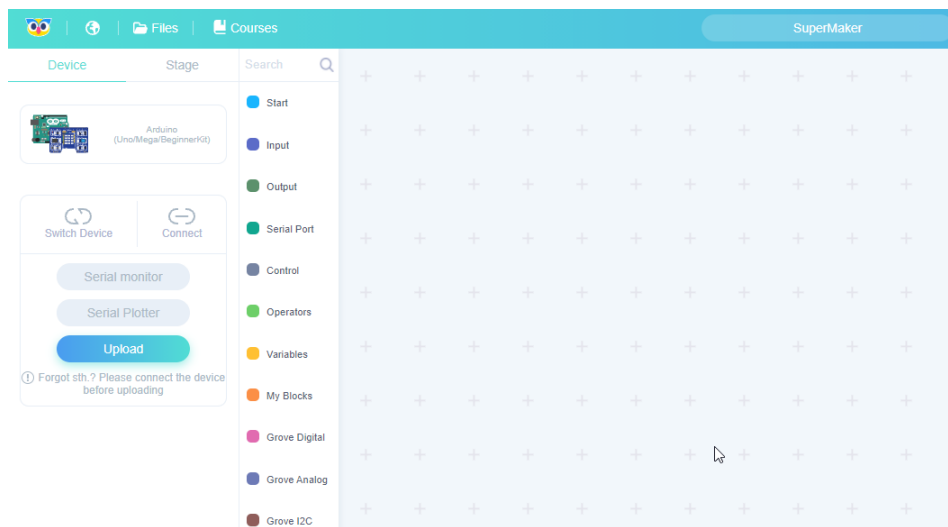

Figure 8.1: Codecraft Workspace
5. Now, you should see a workspace as shown in Figure 8.1.